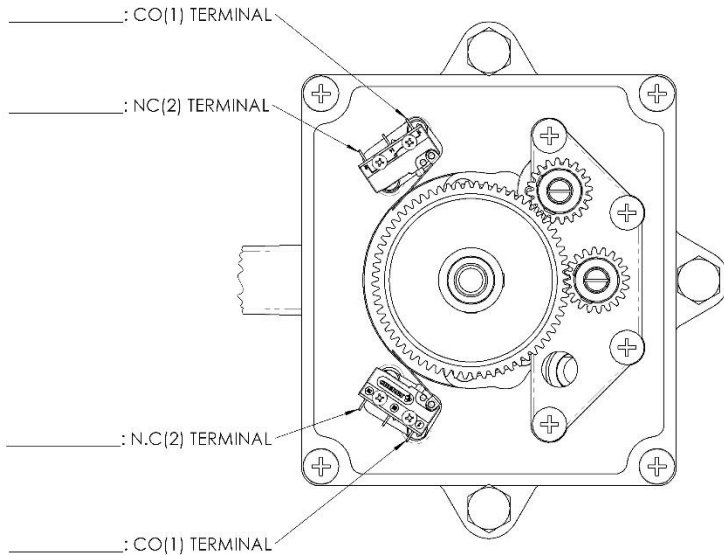

Figure 12: Wiring schematic for customer fill out
1. Note connections of all wires going to the old microswitches prior to disconnecting. It is recommended to fill out the colors of the wire going to each terminal on the diagram shown in Figure 12. On the old microswitch, Kobelt PN 6001-0104, the terminals are labelled 1 and 2, and correspond to terminals 1 and 2 on the new microswitches.
- a. Follow the wiring connections that were noted in step one, Figure 12.
- c. In case of discrepancy between the noted wiring and factory wiring, it is recommended to keep wiring as noted in Figure 12 as the wiring may have been altered in the field at original installation. This will ensure the RFU behaves in the same manner as prior to the retrofit.